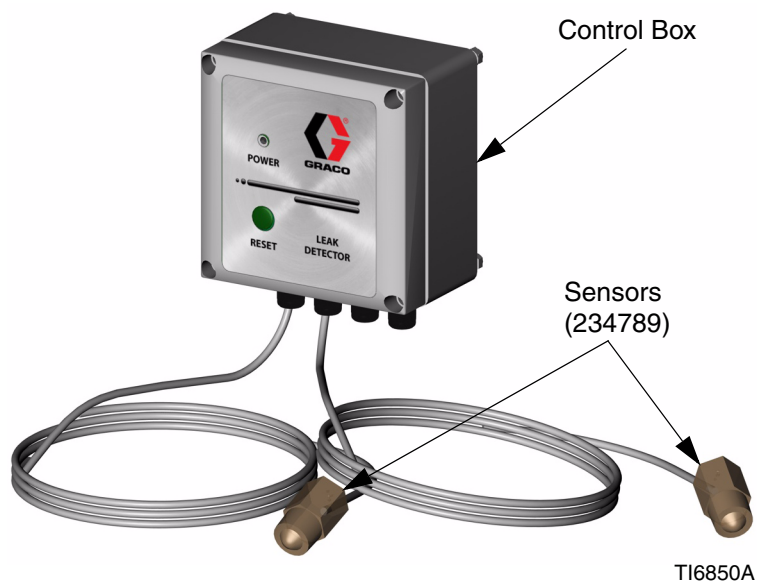
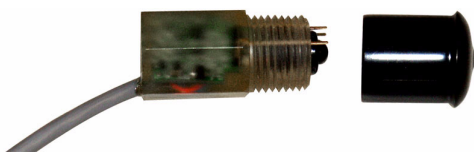
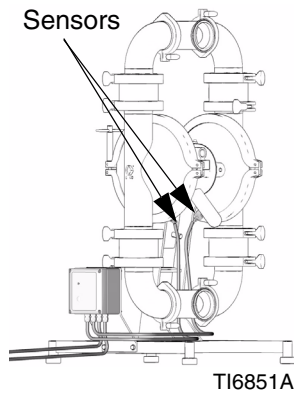

FIG. 1
FIG. 2
FIG. 5
The sensors are mounted on the pump to detect liquid on the air side of the diaphragm. See FIG. 1, FIG. 2, and FIG. 5.
3. Remove the sensor covers. Connect the leak detector to the pump by screwing the sensors into the pump. Use thread sealant, as needed. See FIG. 5.